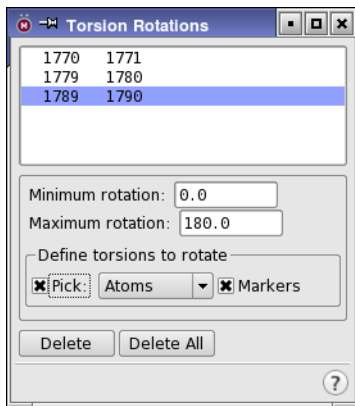

Figure 4.3. The Torsion Rotations panel.
10. In the CSearch tab, from the Search variables option menu choose Torsion Rotations, then click Edit, to open the Torsion Rotations panel (see Figure 4.3).